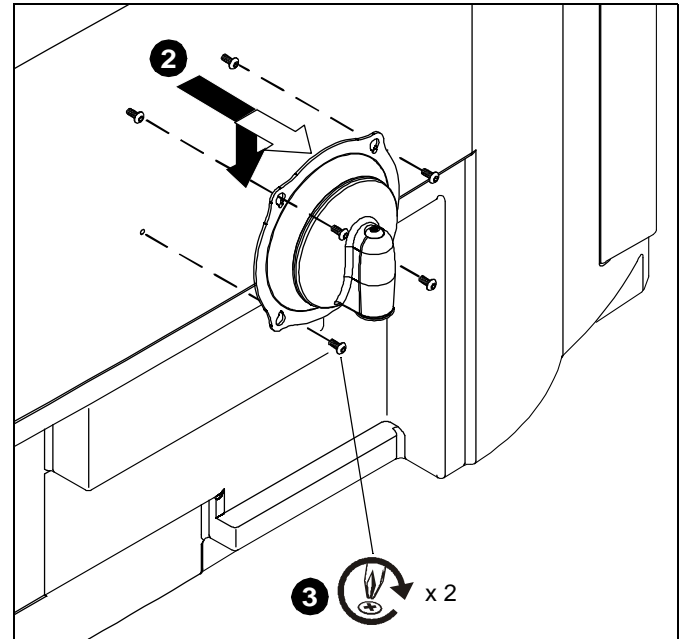

Figure 4
2. Align two screws in display back with upper mounting holes in Centris cup and lower display until screws are seated in lower area of teardrop mounting holes. (See Figure 4)
3. Install two more of the same screws through lower mounting holes in Centris cup and into display back. (See Figure 4)